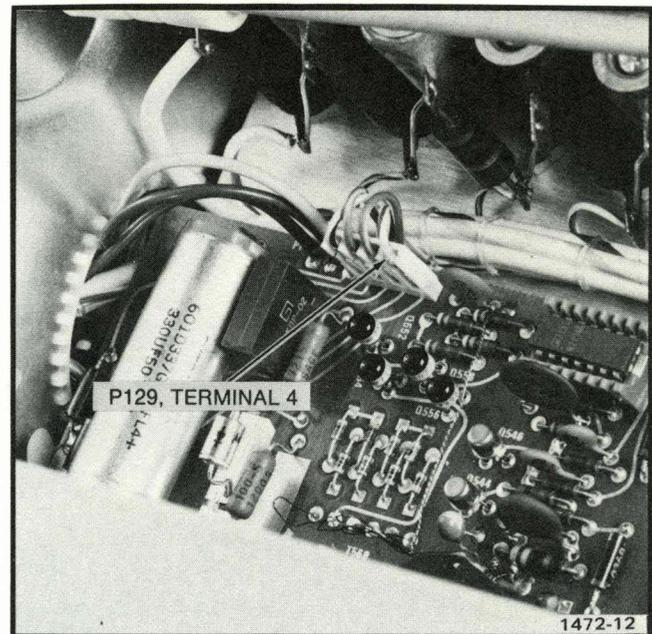

Fig. 5-4. Location of P129, Terminal 4.
e. Move the DVM lead from B terminal to terminal 4 of connector P129 (see Fig. 5-4) on the Collector Supply board (measure the voltage between the white-green wire on the MAX PEAK VOLTS switch and P129-4).